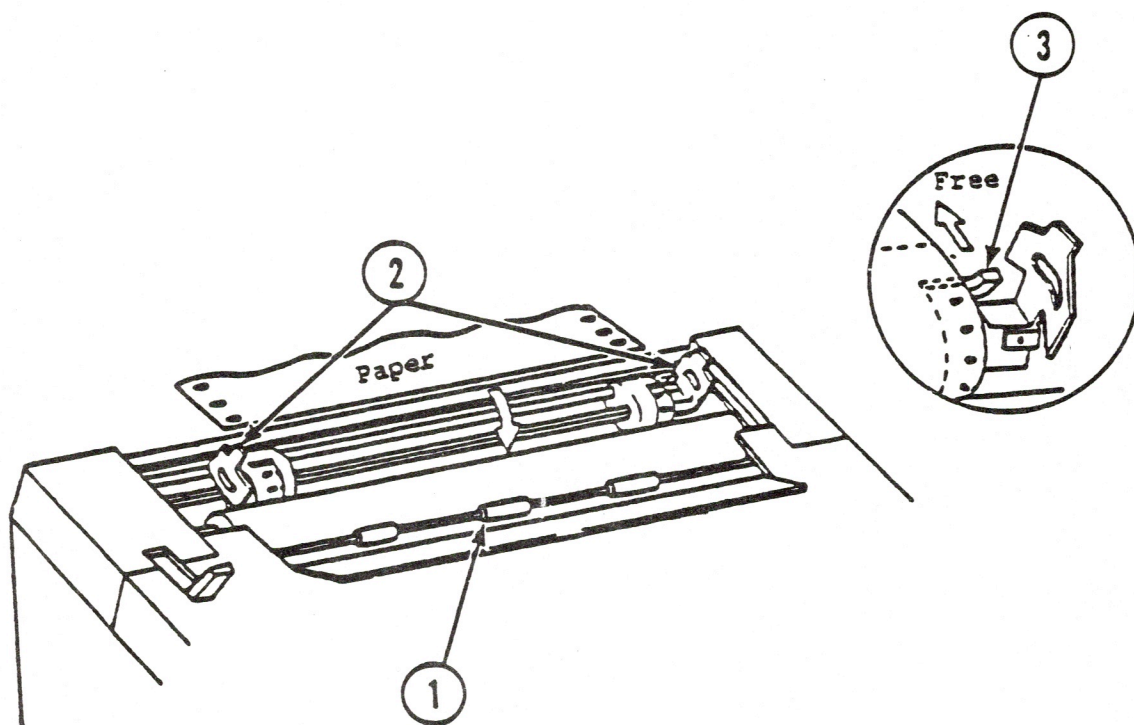

FIGURE 2
5. Pull the paper roller shaft forward. (See Figure 2, #1.)
6. Lift the covers off the right and left tractor sprockets. (See Figure 2, #2.)
7. Make sure the left tractor is all the way over to the left. To adjust the tractor, push back the white lever. (See Figure 2, #3.) Move the tractor all the way over to the left. To lock the tractor in place, pull the white lever back toward you.